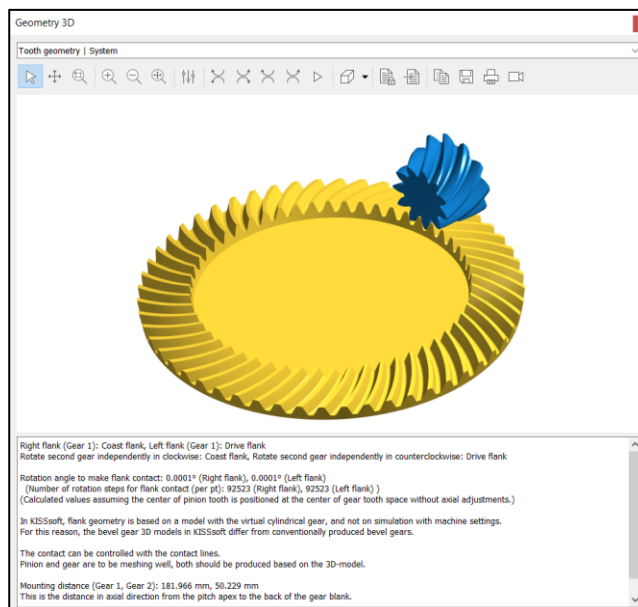

Figure 32. Display of the 3D bevel gear
2. Then display the 3D model under «Graphics → 3D geometry → Tooth system» (see Figure 32):